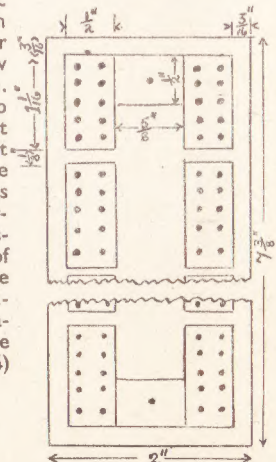

Fig. 1—Plan of board
**F**OLLOWERS of this popular game may be interested in this article, which describes a moderately easy scorer, requiring no gear wheels or other difficult parts. As the title implies, the scoring is automatic, requiring no mental arithmetic on the part of the players. A half view is given in Fig. 1 only, it being understood that the second half is identical. This is how it works.